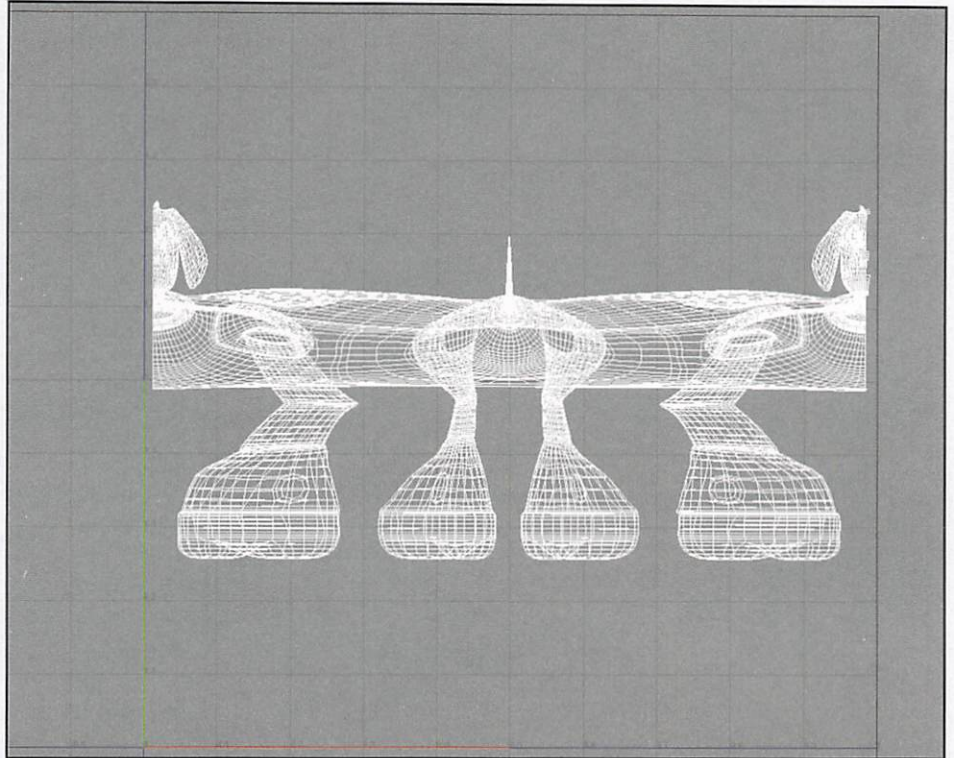

FIGURE 5 – A NEW UV SET HAS BEEN CREATED TO CONTROL THE TRANSPARENCY MAP VIA A CYLINDRICAL TEXTURE PLACEMENT
**9** The UV mapping for the transparency channel doesn't have to be terribly complicated. I selected the UVs and scaled them down so that they fit in the upper right hand corner of the grid. Any stray UVs caused by the mapping I selected and cleaned up by moving them in. You can see how the UV set looks in figure 5. In the figure, I have the UVs fitting roughly between 1 and 0 in U, and .25 and .75 in V. Once this is done, the upper half of the dog should be black and the lower half white.